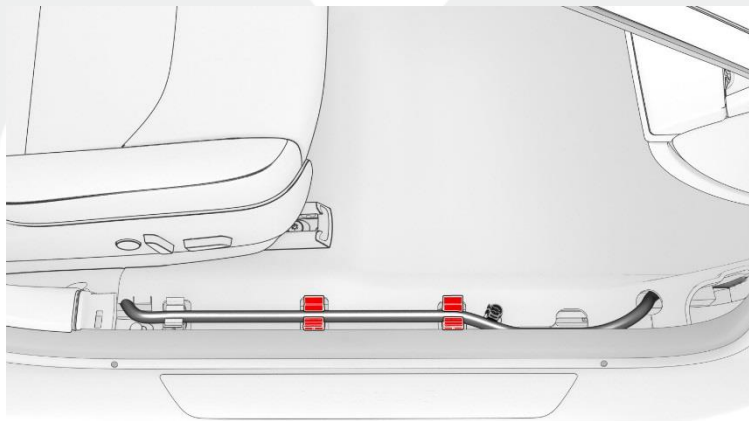

Figure 2
10. Release the seat electrical harness from the clips to allow the RH front carpet to fold back more (Figure 2).
17. Unfold the RH front main carpet back to its original position, and then secure the seat electrical harness with clips (Figure 2).